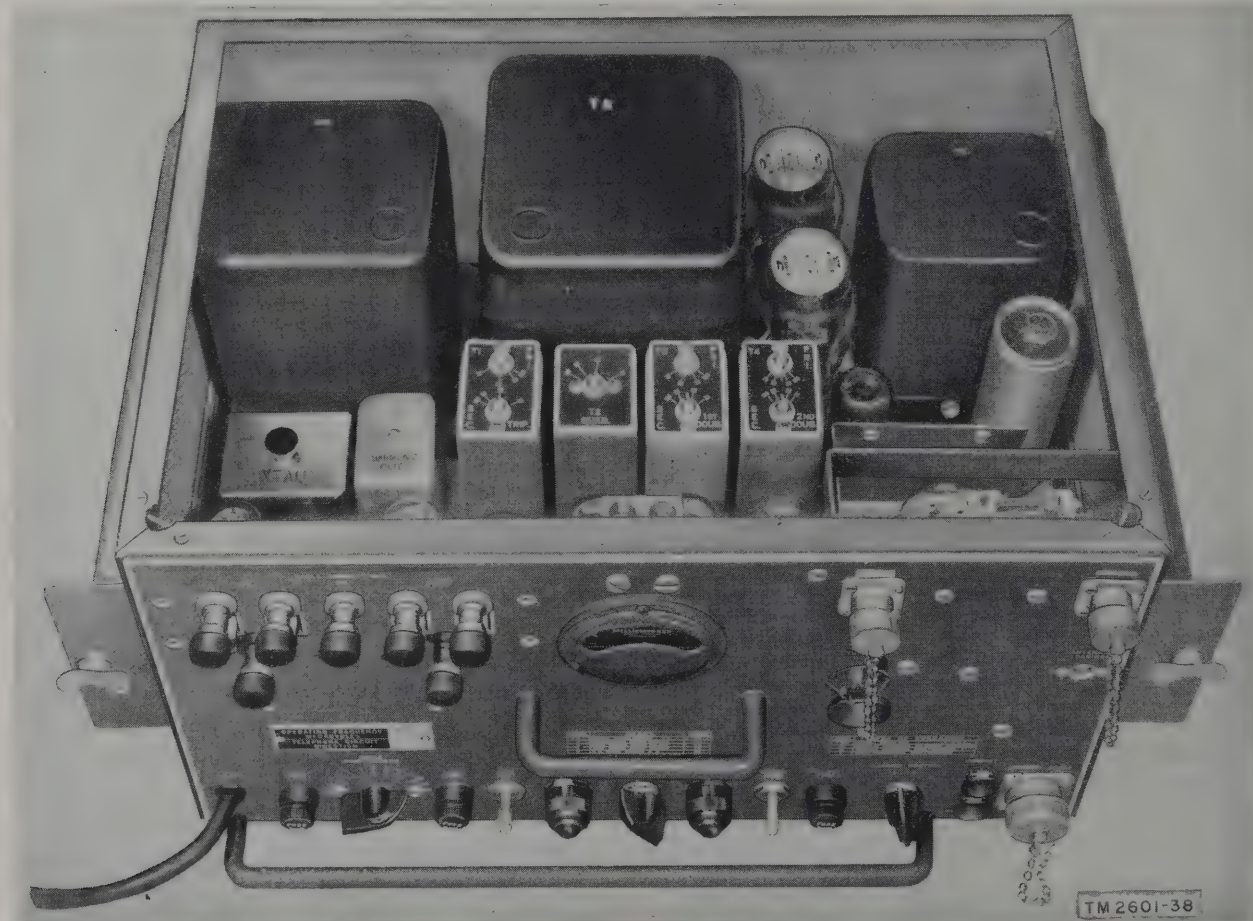

Figure 35. Radio Transmitter T-14H/TRC-1, top view of chassis.
g. Radio Transmitter T-14H/TRC-1 (fig. 35) incorporates all the improvements in the previous models, except that the frequency multiplying stages are the same as in the unlettered through C models.